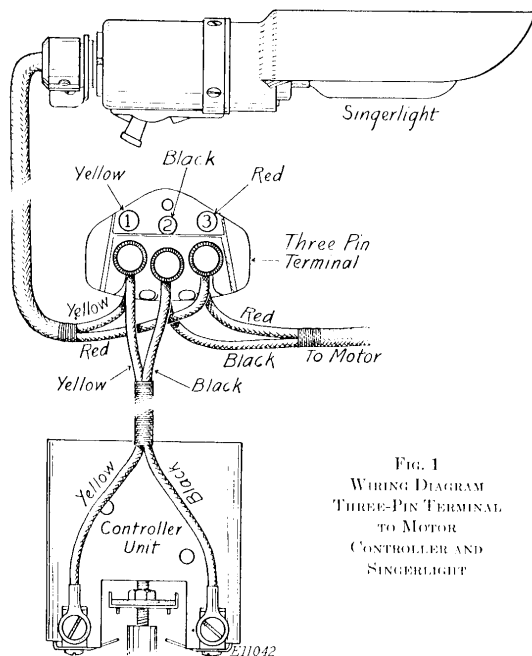
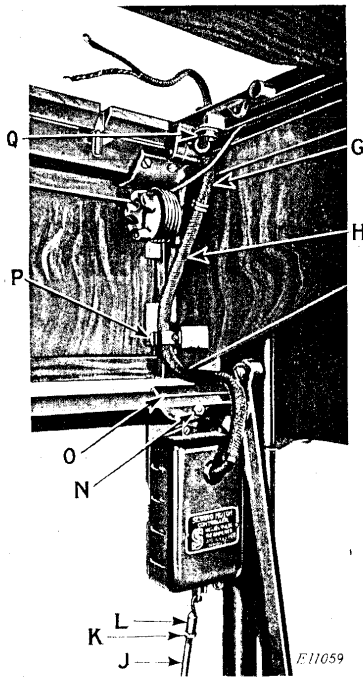

FIG. 1
FIG. 3. TREADLE CONTROLLER ON STAND 46913 AND CABINET 404
**Motor Leads**—Fasten the lead with the **red** tracer thread to the **red** pin No. 3, and fasten the solid **black** motor lead to the **middle** pin No. 2, as illustrated in Fig. 1.
four screws in the cabinet as shown at (D). This brings knee controller lever just below the front of the cabinet as shown by (C). Put cable housing (E), containing controller leads, in clip (F). Pass the controller leads up through bushing (A) and attach controller leads to three-pin terminal as indicated by Fig. 1, Wiring Diagram.
Disconnect the controller leads from pins Nos. 1 and 2 of three-pin terminal. Draw controller leads down through lifting plate bushing (Q, Fig. 3). Remove cable housing (H) from clip (P). Loosen nut (K) and unscrew pitman rod (J) from connection (L). Remove nut and screw (N) which fasten controller bracket (O) to treadle frame. When replacing, attach bracket (O) to treadle frame by means of screw and nut (N). Attach pitman rod (J) to connection (L) by screwing upper end of pitman rod into base of connection as shown in Fig. 3. Tighten nut (K) against base of connection (L). Put long cable housing (H) in clip (P) and place short cable housing (G) above housing (H) as shown in Fig. 3. Pass controller leads up through bushing (Q) and attach controller leads to three-pin terminal as shown by Fig. 1, Wiring Diagram.